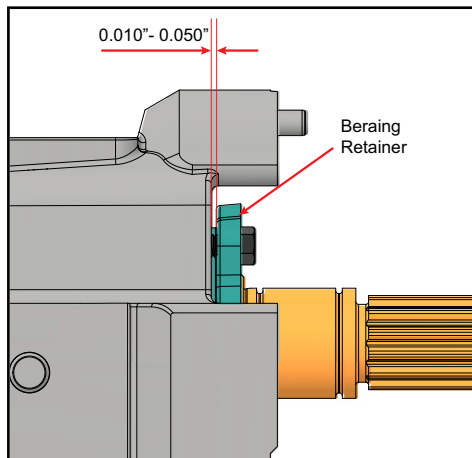

Figure 85 - Bearing Retainer Clearance
5. The bearing retainer must rest firmly against the bearing. Leave a 0.010 to 0.050 in (0.25 to 1.25 mm) clearance between the back of the bearing retainer and the front of the gear case (Figure 85). If this clearance is not met, place shims between the bearing and retainer.